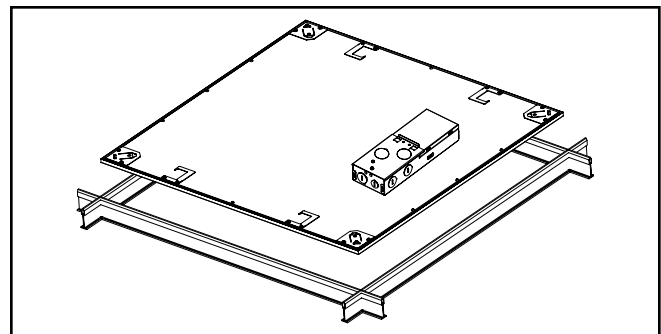

Figure 3.
5. Pass fixture through the grid at a 45 degree angle and lay fixture into the grid. (Figure 3.)